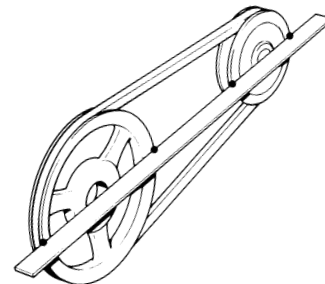

Fig. 41 V-belt pulley adjustment
- Check that after tension adjustment and tightening the motor mounting nuts, both pulleys are in a straight line to avoid excessive wear of the V-belt. Hold a straight edge against compressor and motor V-belt pulleys as shown in Fig. 41: edge must be parallel to the v-belt.